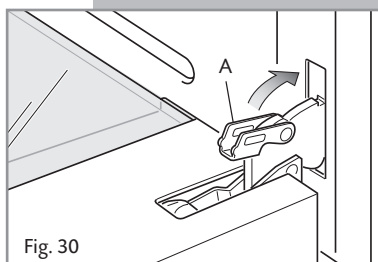

Fig. 30
- Unlock the oven door by opening it completely and closing the lever **A** on the left and right hinges (Fig. 30).